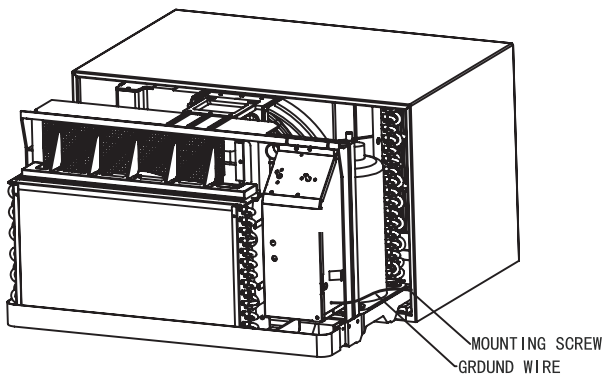

Fig 5
2. Remove the ground screw and wire next to the grounding symbol on right side of chassis control panel (Fig 5). Attach other end of ground wire to the hole in the bottom right side of the sleeve with #8×3/8" blunt point sheet metal screw. The hole on the sleeve is indicated by grounding symbol on the sleeve. Slide chassis part of the way into the sleeve and reattach the ground wire back to the hole on the right side on the control panel area next to the ground symbol.